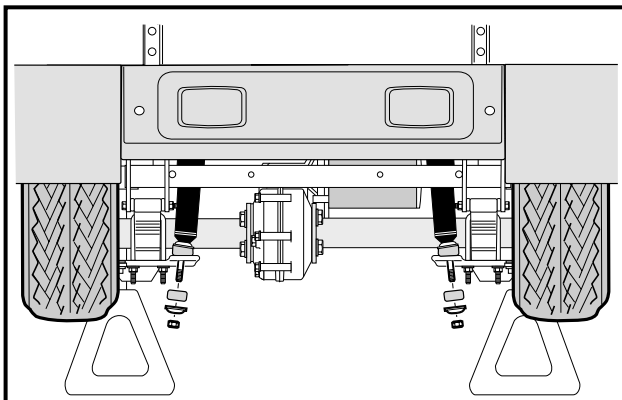
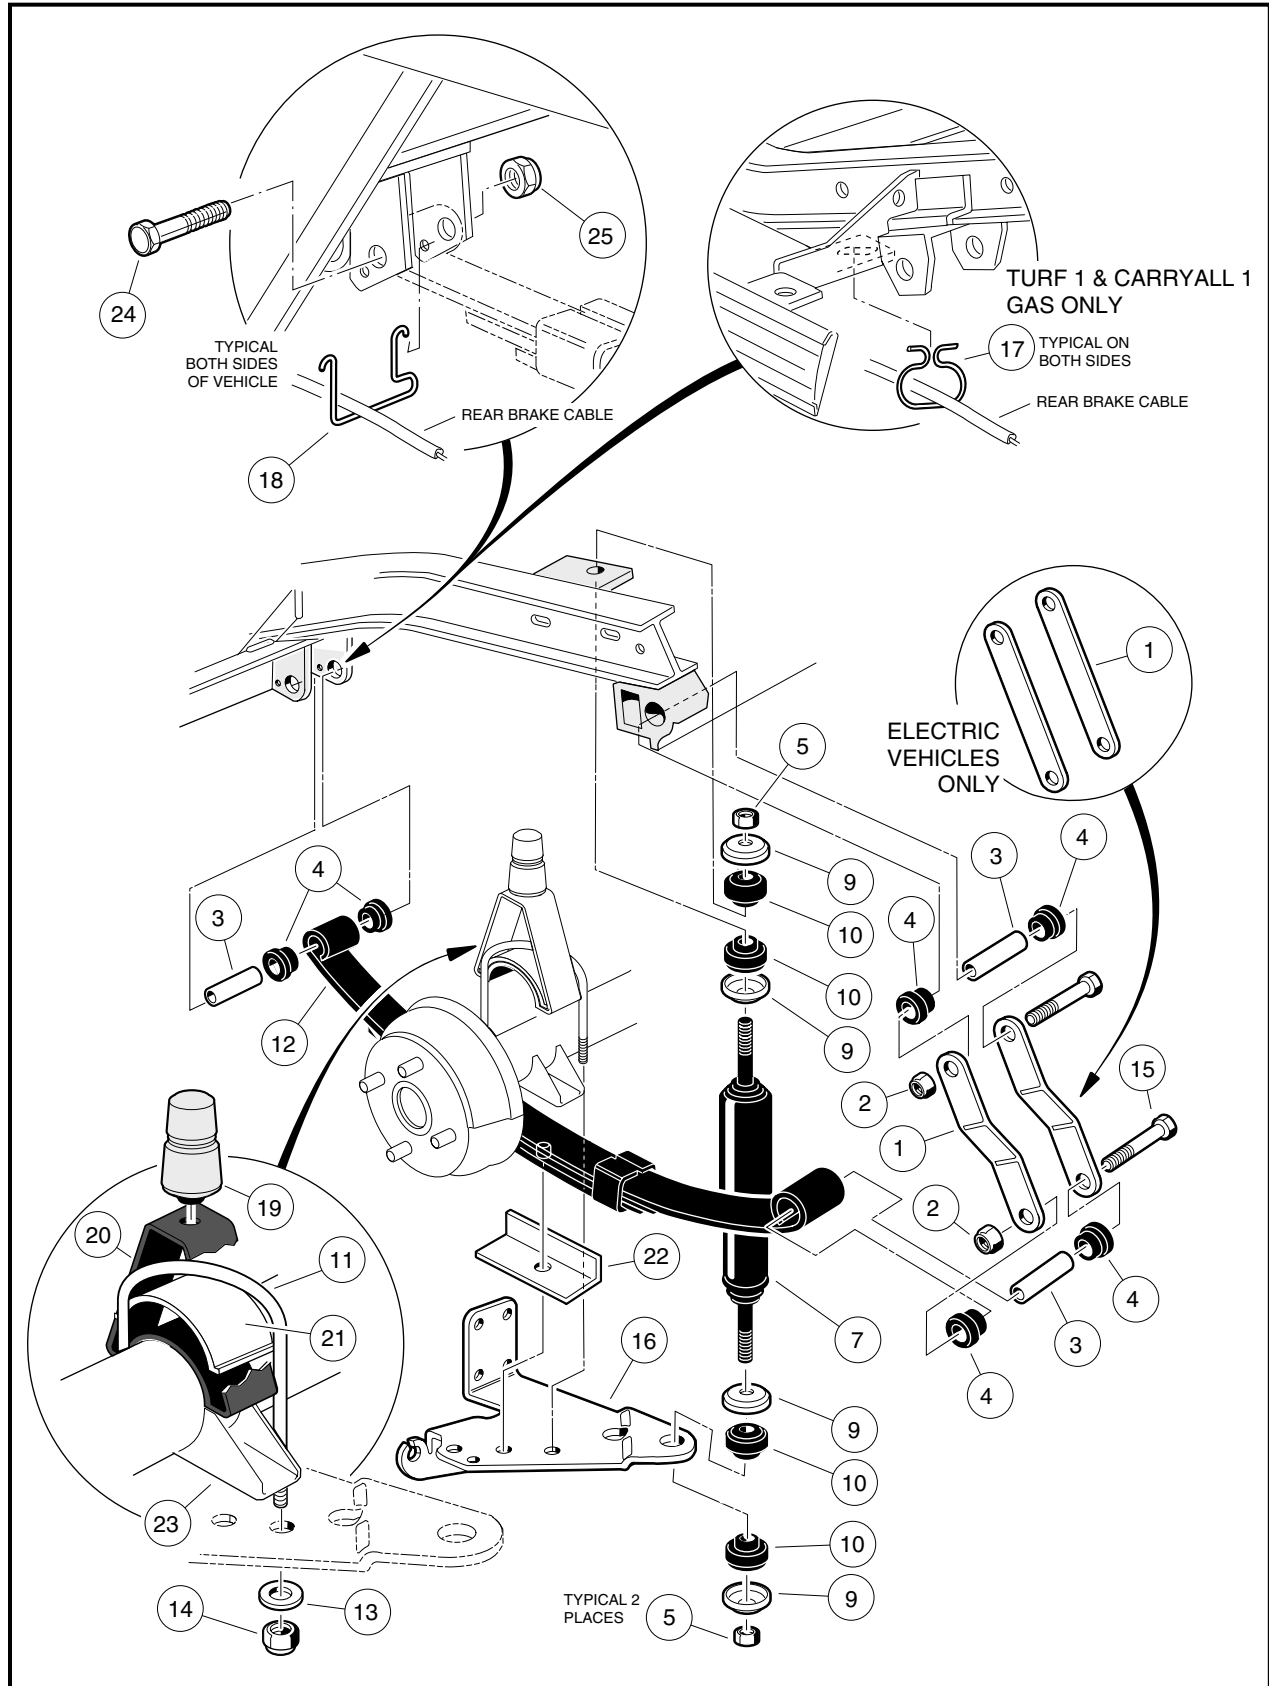
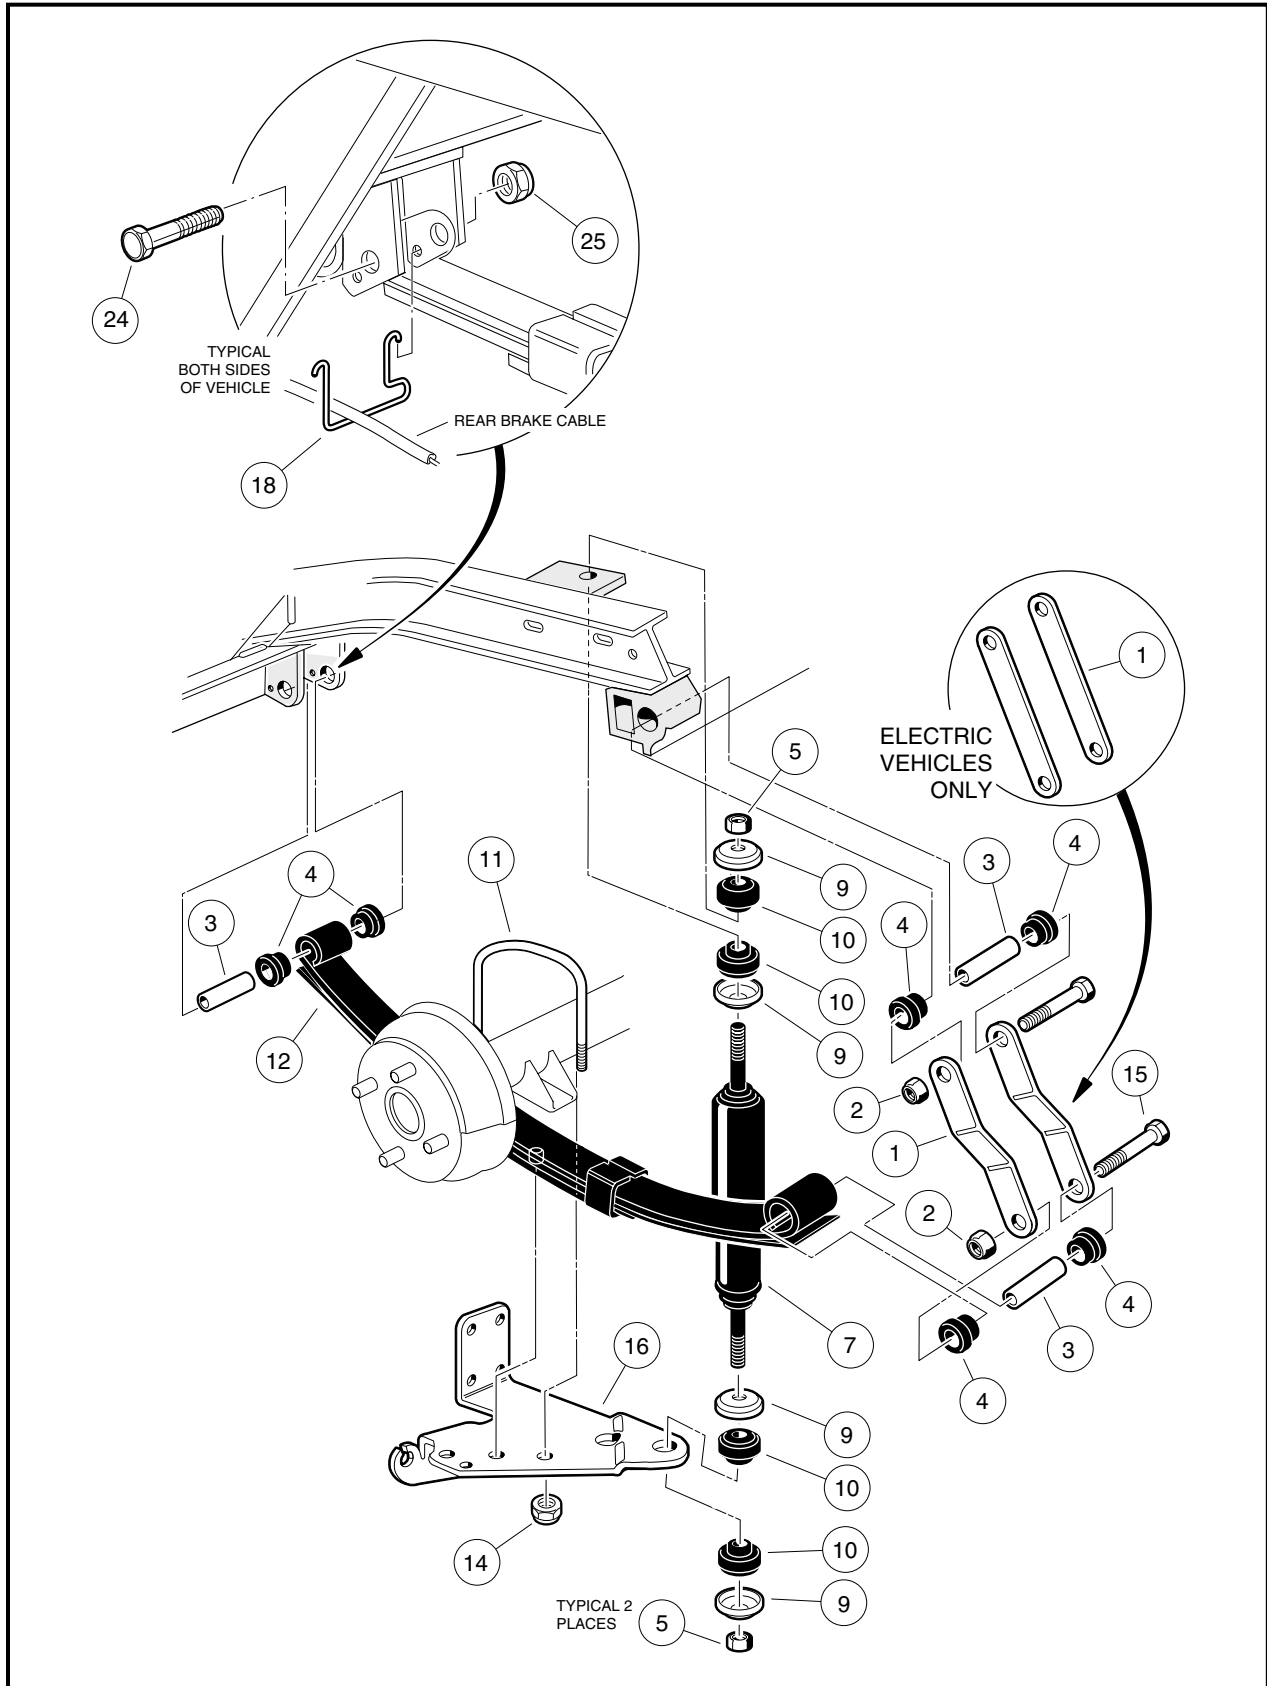

Figure 9-1 Remove Shock Absorbers
Figure 9-3 Rear Suspension – Turf 1 and Carryall 1 Vehicles
Figure 9-4 Rear Suspension – All Turf and Carryall Vehicles Except Turf 1 and Carryall 1
1. Check shock absorbers (7) for damage and fluid leakage around the lower housing of the shock absorber body. Replace damaged or leaking shock absorbers (**Figure 9-3, Page 9-4** or **Figure 9-4, Page 9-5**).
2. To remove a shock absorber (7), remove the nut (5), cup washer (9), and rubber bushing (10) from the upper shock absorber stem.
3. Remove lower mounting hardware (5, 9 and 10) on shock absorber lower mount (**Figure 9-3, Page 9-4** or **Figure 9-4, Page 9-5**). See also **Figure 9-1, Page 9-1**.
2. On the upper shock absorber mount, tighten nut (5) until rubber bushing (10) expands to size of cup washer (9) (**Figure 9-3, Page 9-4** or **Figure 9-4, Page 9-5**).
3. On the lower shock absorber mount, install mounting hardware. Tighten the nut (5) until the rubber bushing (10) expands to the same diameter as the cup washer.
NOTE: Turf 1 and Carryall 1 vehicles are equipped with jounce bumpers (**Figure 9-3, Page 9-4**).
5. Remove lower nut (5), cup washer (9), and rubber bushing (10) from shock absorber (7) **(Figure 9-3, Page 9-4 or Figure 9-4, Page 9-5)**.
- 6.1. Remove the lock nuts (14) and flat washers (13) (if present) attaching the U-bolt (11) to the shock mount bracket (16). Remove jounce bumper mount (20) and spacer (21) **(Figure 9-3, Page 9-4)**.
- 6.2. Allow shock mount bracket (16) to rotate downward and remove spring retainer (22). Do not disconnect brake cable from bracket **(Figure 9-3, Page 9-4)**.
- 7.1. Remove the lock nuts (14) attaching the U-bolt (11) to the shock mount bracket (16). Do not disconnect brake cable from bracket **(Figure 9-4, Page 9-5)**.
8. Raise axle with floor jack until axle saddle (23) is 1 inch (2.5 cm) above spring **(Figure 9-3, Page 9-4)**.
9. Remove bolt (15) and lock nut (2) attaching the leaf spring (12) to the rear shackle (1) **(Figure 9-3, Page 9-4 or Figure 9-4, Page 9-5)**.
10. Allow rear of leaf spring (12) to rest on the ground and remove the bolt (24) and lock nut (25) attaching the front of the spring to the vehicle frame **(Figure 9-3, Page 9-4 or Figure 9-4, Page 9-5)**. Remove spring from vehicle.
11. Inspect the rubber bushings (4) and steel sleeves (3) in the spring eyes and replace them if they are worn or damaged **(Figure 9-3, Page 9-4 or Figure 9-4, Page 9-5)**.
1. Install rubber bushings (4) and steel sleeves (3) into leaf spring eyes if bushings were removed **(Figure 9-3, Page 9-4 or Figure 9-4, Page 9-5)**.
2. Place front of leaf spring (12) into vehicle frame and insert bolt (24) through frame and leaf spring eye. Install lock nut (25) and tighten to 15 ft-lb (20.3 N·m).
3. Align the other end of leaf spring with the holes in the spring shackles (1). Insert bolt (15) through leaf spring eye and shackles. Install lock nut (2) and tighten to 15 ft-lb (20.3 N·m). Lower transaxle onto leaf spring (12).
- When placing transaxle on spring, be sure to position locating bolt on the spring in the locating hole in the transaxle saddle (23) **(Figure 9-3, Page 9-4)**.
- 4.1. Install spring retainer (22) and shock mount bracket (16) onto locating bolt at bottom center of leaf-spring (**Figure 9-3, Page 9-4**). See preceding **CAUTION**.
- 4.2. Position jounce bumper mount (20) with spacer (21) onto axle tube. Install U-bolt (11), flat washers (13) (if present), and lock nuts (14). Tighten U-bolt to 25 ft-lb (34 N-m) (**Figure 9-3, Page 9-4**).
- 5.1. Install shock mount bracket (16) onto locating bolt at bottom center of leaf-spring (**Figure 9-4, Page 9-5**). See preceding **NOTE**.
- 5.2. Install U-bolt (11) and lock nuts (14). Tighten U-bolt to 25 ft-lb (34 N-m) (**Figure 9-4, Page 9-5**).
1. Grip jounce bumper (19) and pull from bumper mount (20) (**Figure 9-3, Page 9-4**).
1. Insert jounce bumper (19) into bumper mount (20) (**Figure 9-3, Page 9-4**). Make sure the entire circumference of bumper is seated firmly in mounting hole.